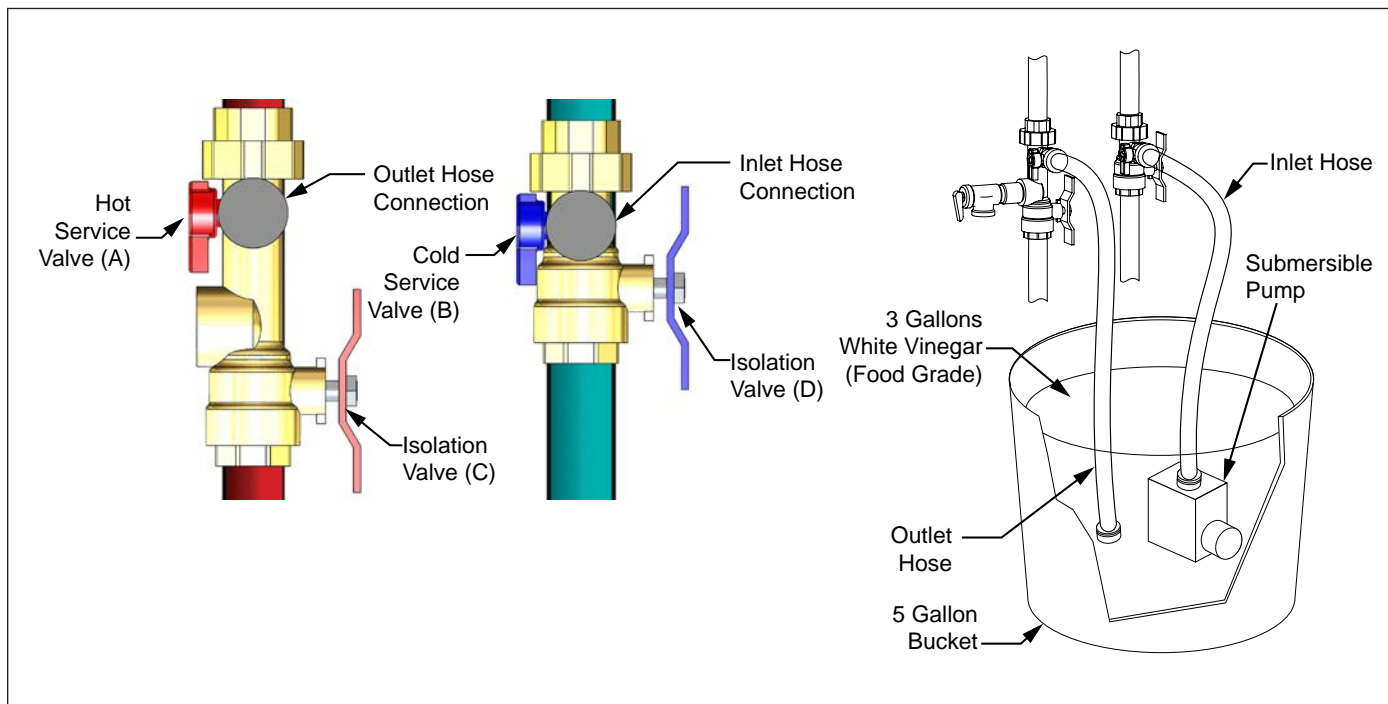

Figure 7 - Isolation valve connection points
- 2 Pour the white vinegar (3 gallons) into the 5 gallon bucket (see Figure 7).
- 3 Connect inlet hose to the transfer pump's discharge outlet. Connect the opposite end of hose to the inlet hose connection at the cold water inlet's isolation valve (see Figure 7).
- 5 Connect the second hose to the outlet hose connection at the hot water outlet. Place the loose end of hose into the bucket with the vinegar (see Figure 7).
- 6 Open the hot and cold service valves A & B (see Figure 7).
- 10 Close service valves A & B (see Figure 7).